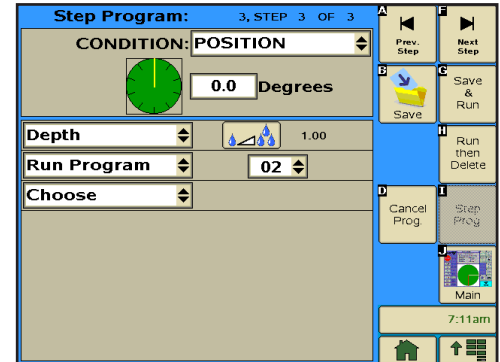

Figure 159-1
11. Program the position condition for this step. Refer to Figure 159-1.